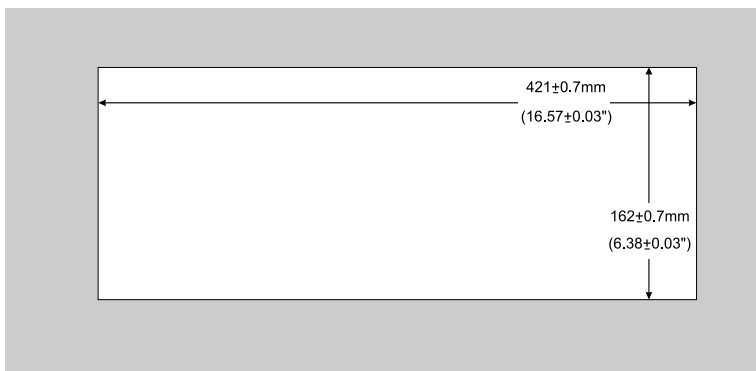

Figure 3: Cut Out Dimensions
1. Cut an opening in the desktop—making the cut out on a wooden surface using a sabre saw or a keyhole saw—at the location where you want to insert the **VP-727T**. Figure 3 illustrates the cut out template (not to scale) defining the surface that you have to cut out to install your **VP-727T**.